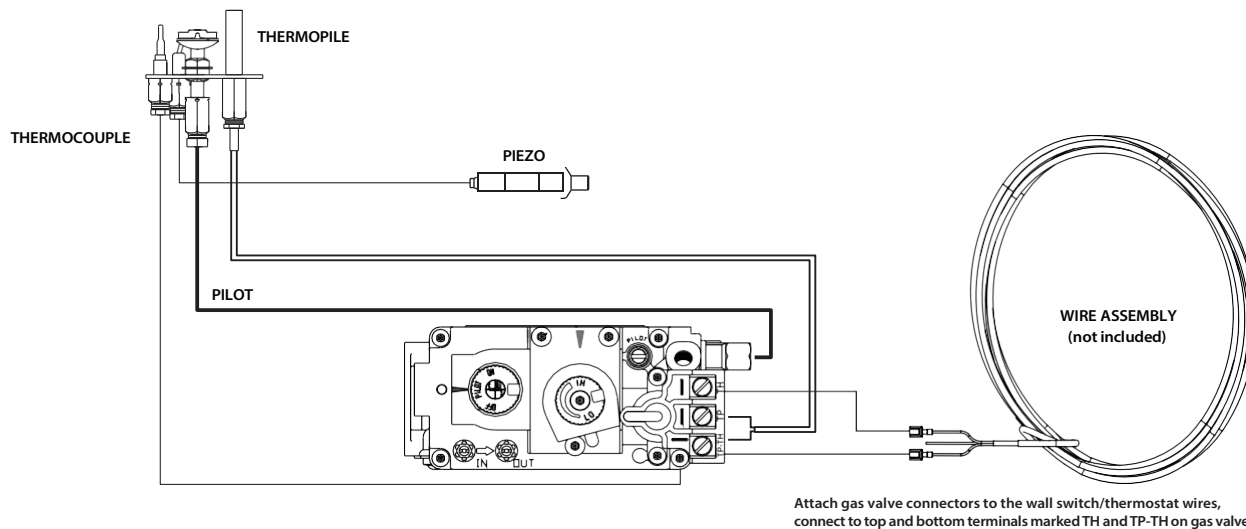

Figure 8.5, OAK18-MV Gas Valve Wiring Schematic with Thermostat or Wall Switch
- It is optional to disable rocker switch operating the main burner by disconnecting the wires from the back of the gas valve (Figure 8.5).